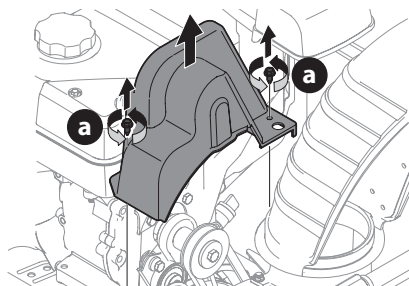

Figure 77
2. Remove plastic belt cover on front of engine by removing two self-tapping screws (a) (Figure 77).